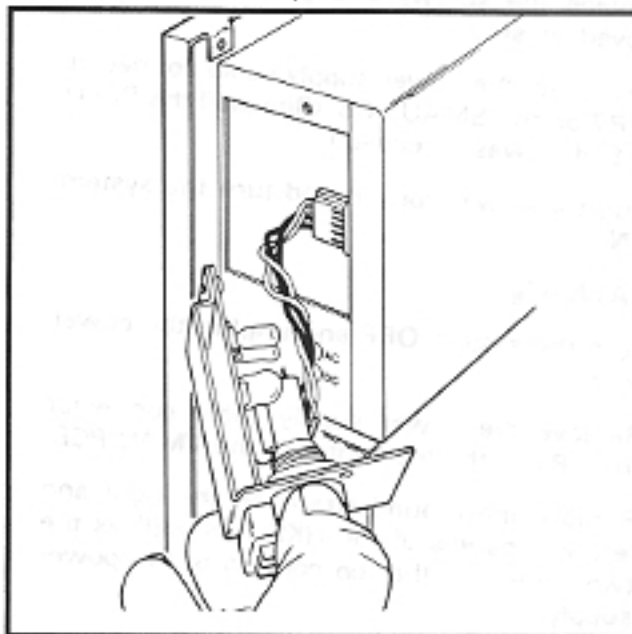

FIGURE 5—HPBU INSTALLATION
The HPBU-7 is a PCB that mounts inside the power supply housing (Figure 5) and is connected to the female 3-prong connector inside the power supply's case. Secure the HPBU with the two provided screws.
- 4) Connect the 4-wire connector extending from the rear of the HPBU-7 inside the power supply case as shown in Figure 5.